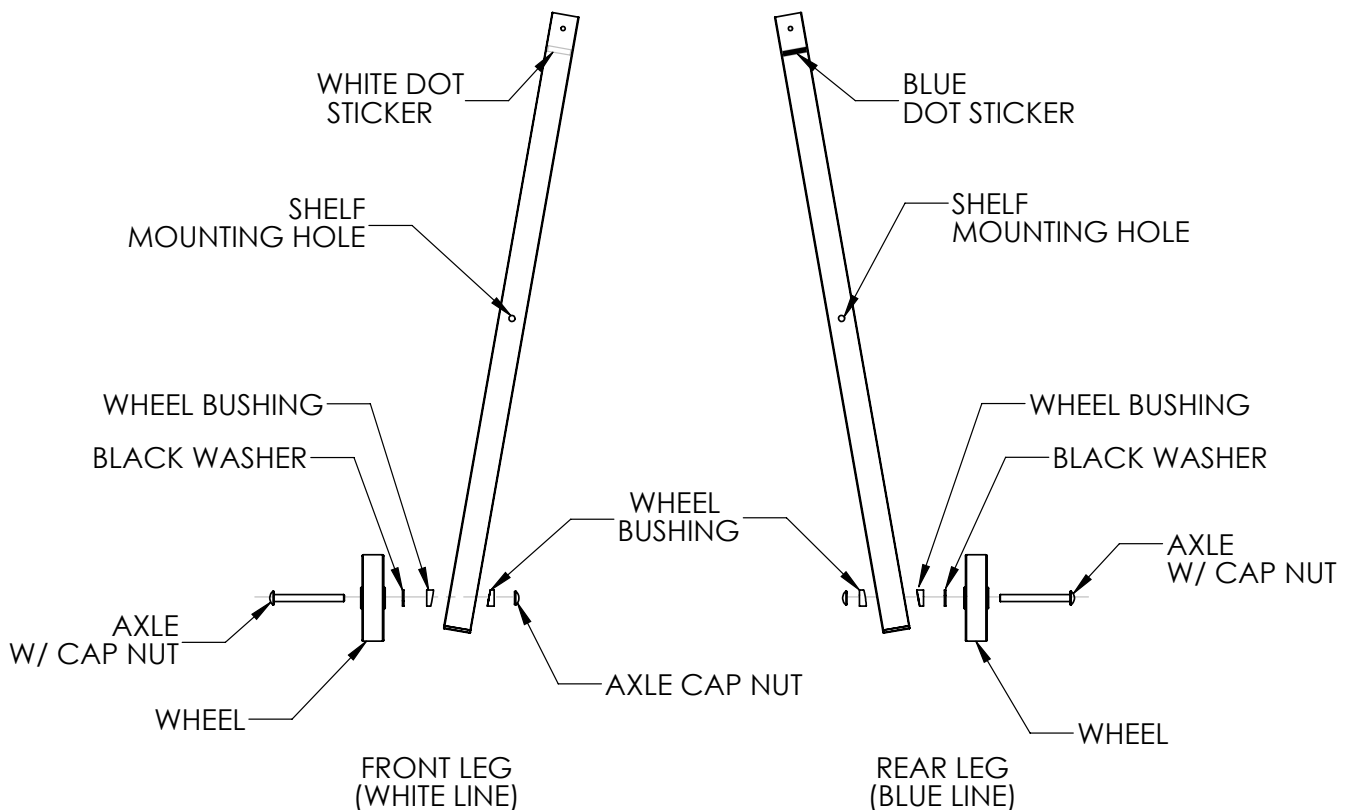

FIGURE 3 - WHEEL ASSEMBLY
- Position front and rear legs on a flat surface as shown in figure 3, with the white paint line facing up and to the left, and the blue paint line facing up and to the right. The legs will be angled so that the ends with the large drilled axle holes on the side are angled outwards, forming a pyramid shape.
- Remove the wheels from the bag. Slide (1) axle through the hole in each wheel, and place both on the work surface with axle ends facing up.
- e. Place (1) black washer over each axle.
- f. Place (1) angle end bushing onto each axle over the washer, with the angle end surface facing up.
- g. Slide (1) wheel/axle assembly onto one of the legs, aligning the axle end to the outer hole at the bottom of the leg. Press the axle completely through the leg, moving the leg slightly to align the axle to the inner hole as it passes through. Position the angle of the bushing flush with the side of the leg.
- i. Slide (1) angle end bushing over the axle with the angled surface facing down, resting flush with the leg surface.
- j. Place (1) axle cap onto the axle end and press firmly down onto the axle, positioning the cap flat to the wheel. Place aside.